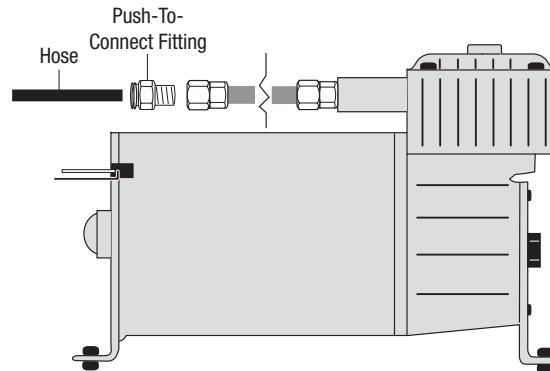

fig. 4
6. Install the fitting into the pressure port side of the leader hose (Figure 4).
- Install the air line into the air line fitting previously installed on the compressor (Fig. 4).